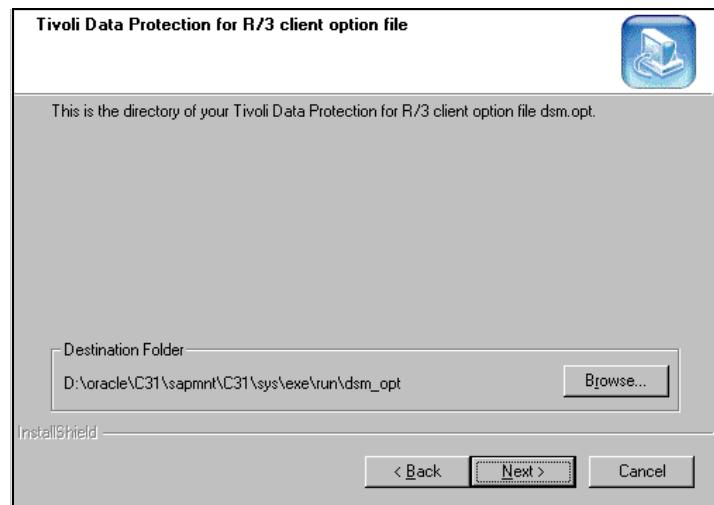

Figure 73. Option file destination folder
9. Check the destination where your `<servername>.opt` file(s) will reside and change it if needed (see Figure 73).